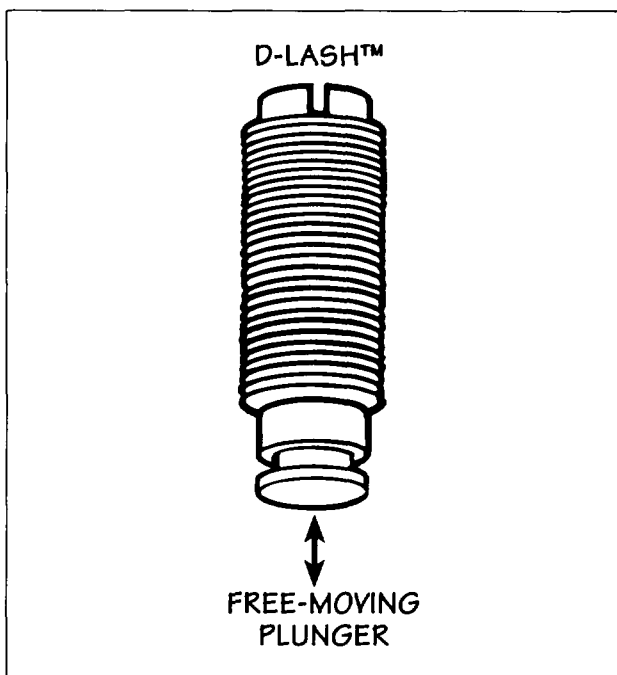

FIG. 27
3. Inspect the slave piston adjusting screw. The plunger should protrude from the bottom of the screw and should move freely (see Fig. 27). Replace the entire screw assembly if any defect is found.